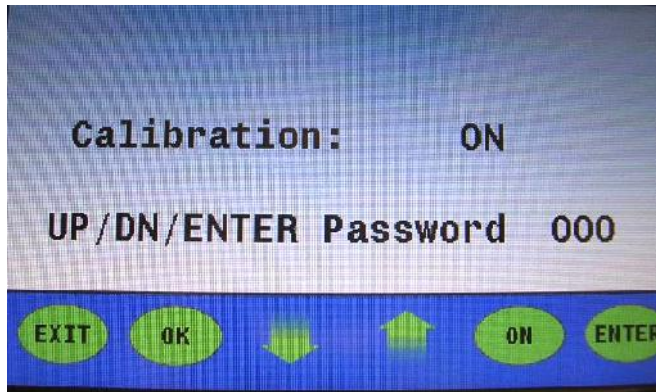

Figure 14
8. Press the up or down arrow once and three “0”s / (000) will show up to the right of the word “PASSWORD”. **(Figure 14)**